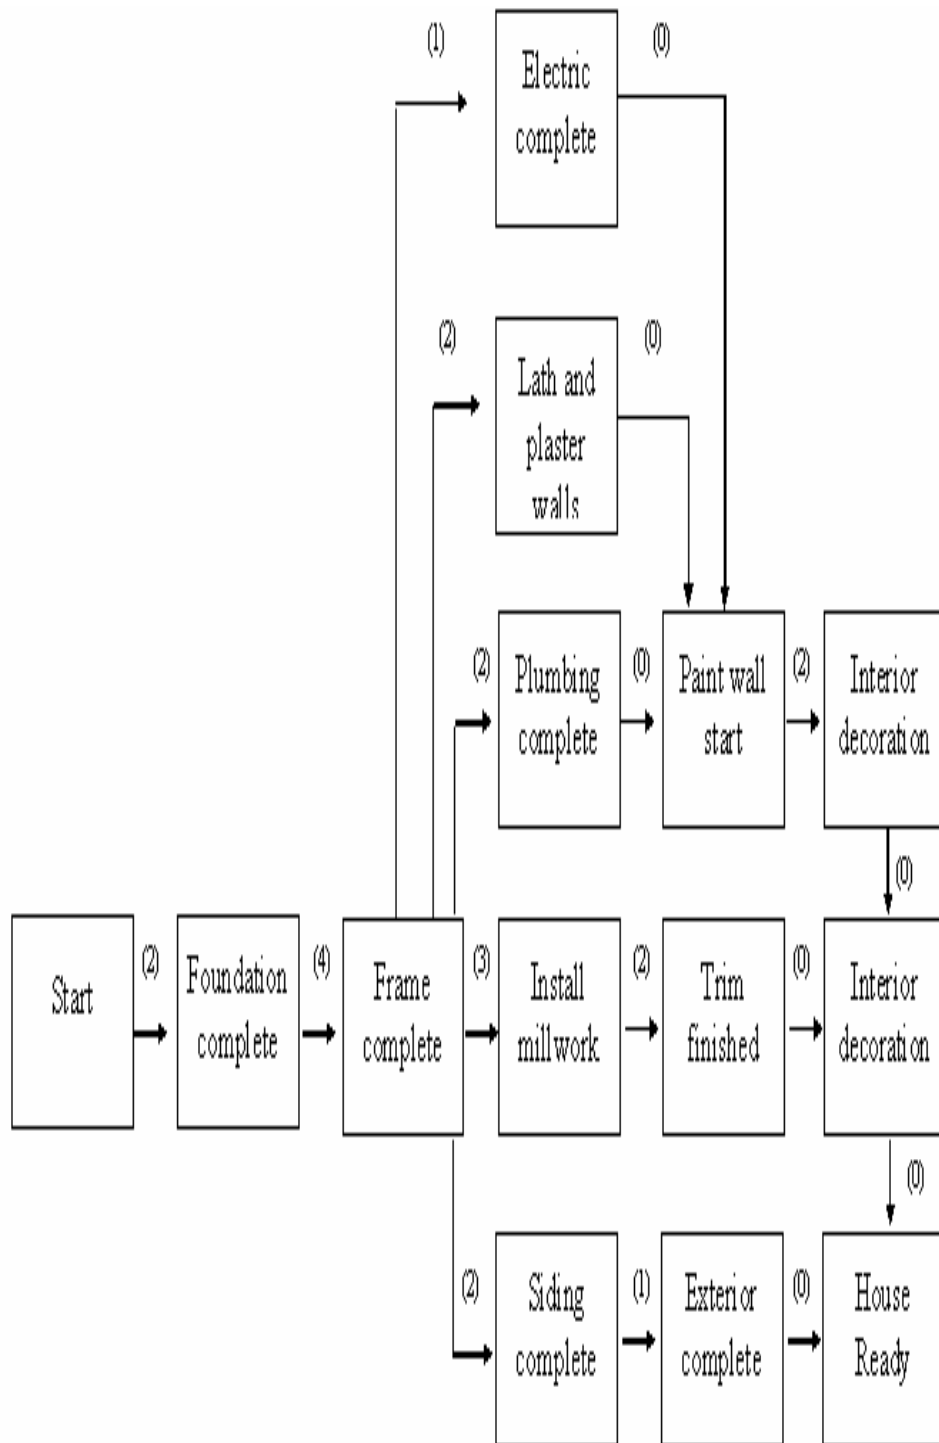

Figure 2.3: PERT network design for building a house
**Step (1): List all the activities / events** that must be accomplished for the project and the sequence in which these activities / events should be performed.
**Step (2): Determine how much time** will be needed to complete each activity / event.
**Step (3): Design a PERT network** that reflects all of the information contained in step (1) and (2).
**Step (4): Identify the critical path.** We can show this in Figure 2.3 that represents a PERT network designed for building a house.